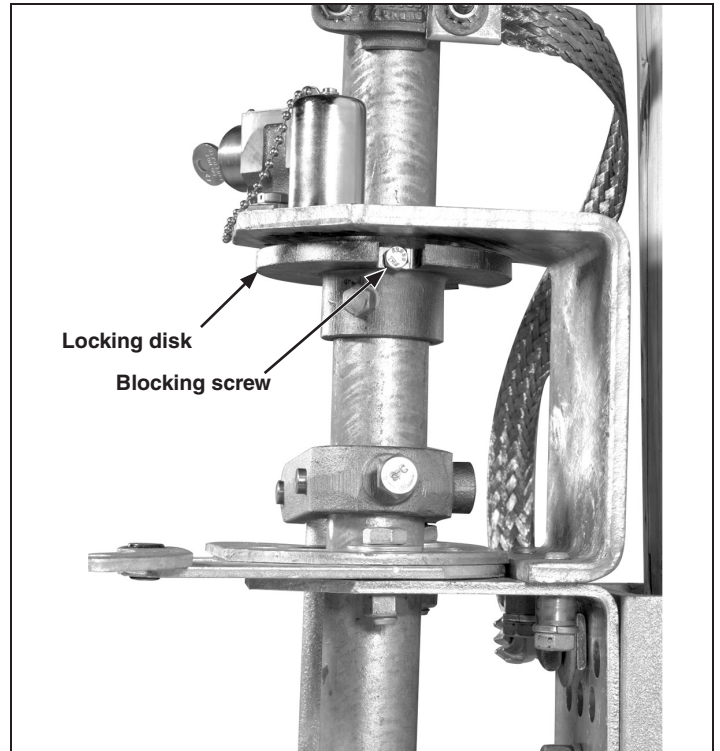

Figure 16. Blocking slot in the interlock disc.
STEP 20. Block one of the two slots in the locking disc with the blocking screw provided. (The slot to be blocked depends on whether a locked-open or locked-closed arrangement is required.) See Figure 16.